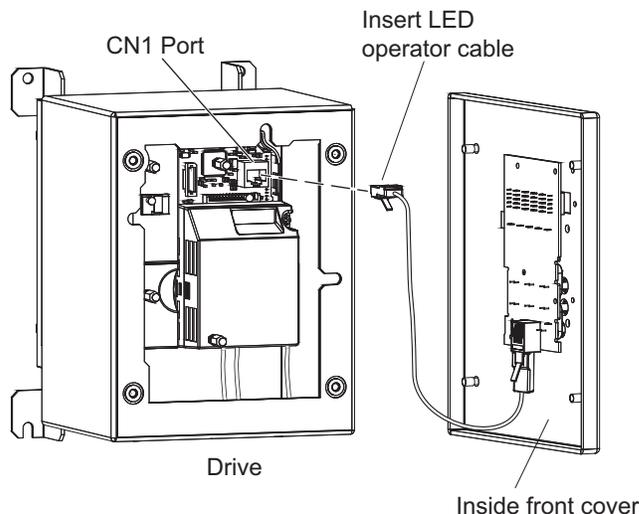

Figure 37 Insert LED Operator Cable to Drive CN1 Port
13. Insert the LED operator cable from the front cover into port CN1 on the drive. **Figure 37**